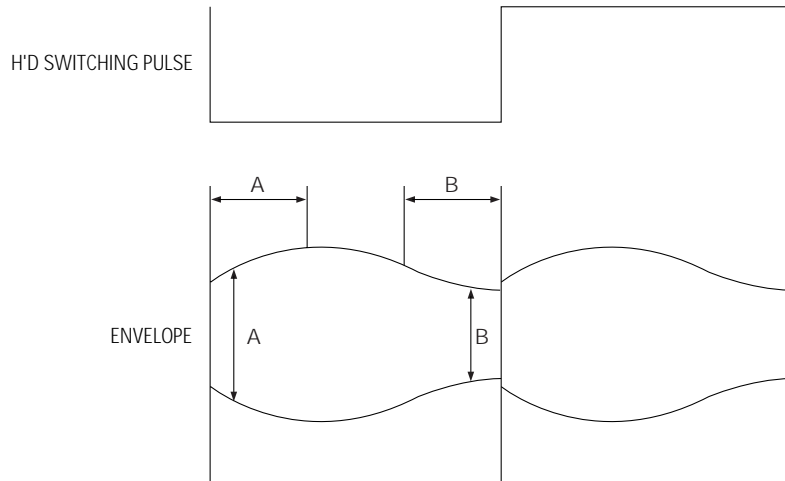

Fig. 2-15 Adjustment Points
- 4) If the section A in Fig. 2-15 does not meet the specification, adjust the guide roller S up or down.
- 5) If the section B in Fig. 2-15 does not meet the specification, adjust the guide roller T up or down.